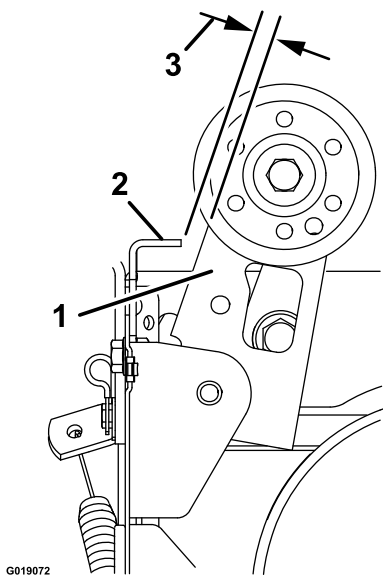

Figure 35
3. Adjust the turnbuckle until the gap between the broom clutch assembly and the tab is 3.2 mm (1/8 inch) (Figure 35).